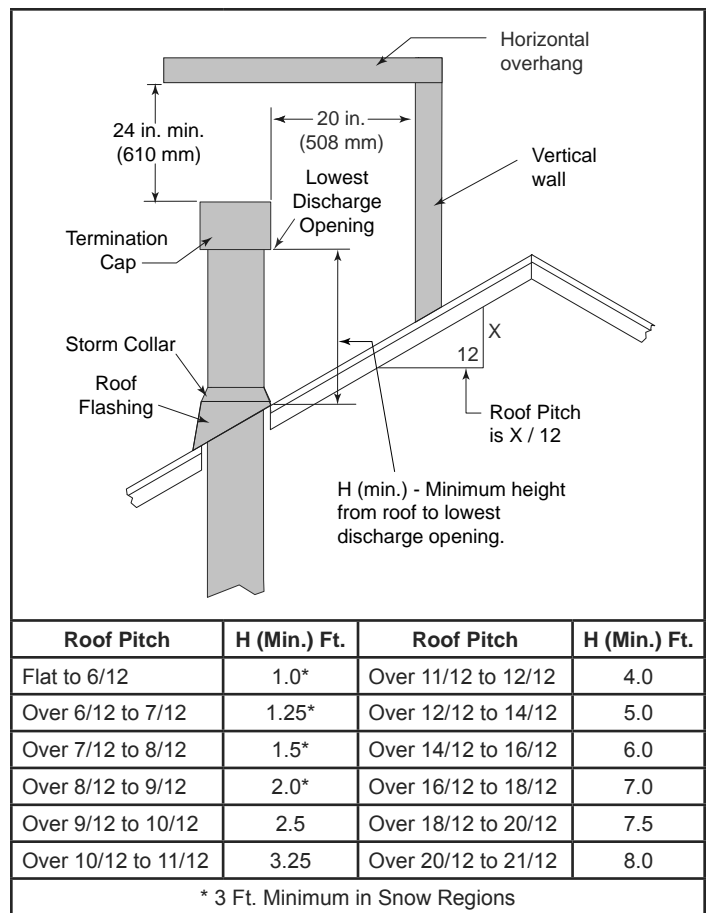

Figure 37 - Minimum Height from Roof to Lowest Discharge Opening
- The maximum angular variation allowed in the system is 270°. *Figure 37*